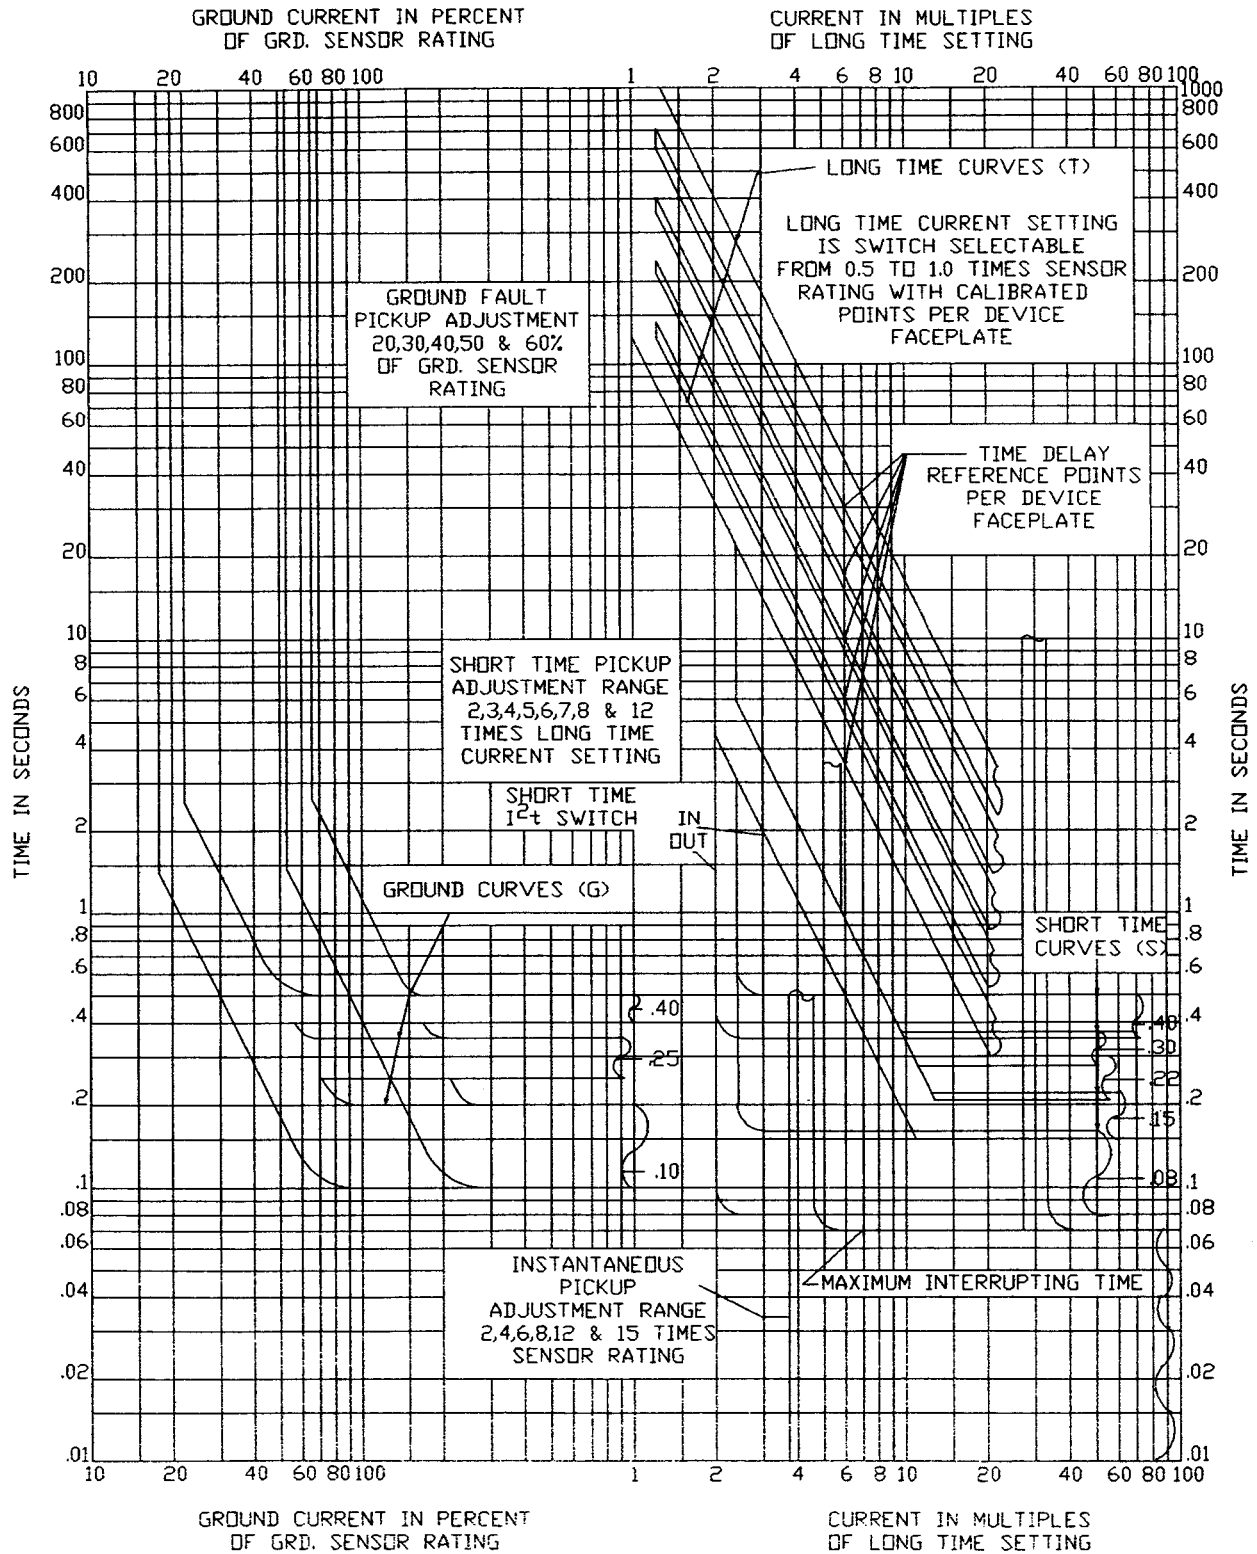

Figure 5. Time Current Curves—Static Trip III
If the time delay is tested at an input current 6 times the pick-up setting, the nominal time delays will be as marked on the trip device. Maximum and minimum limits can be determined by references to the time current characteristic curves, **Figure 5**.
6. When the trip device operates, check the reading of the stop clock against the curves in **Figure 5**. The reading should be approximately the same as shown on the faceplate of the device, but must be within the limits shown on the curves. If not, recheck all settings and repeat the test.
8. Repeat for the other phases (by changing the phase selector switch) time delay bands and other values of current, as desired. All test points should fall within the bands of **Figure 5**.
4. Press the START button, the delay should be .35 to .50 seconds. See **Figure 5**.
5. Repeat for SHORT TIME BAND settings on the other delay bands. Compare to **Figure 5**. The other phase circuits and different values of current can be tested if desired. Make current settings as quickly as possible to avoid overheating.
5. Press the START button. The breaker should trip in 0.4 and 0.5 seconds. See **Figure 5**.